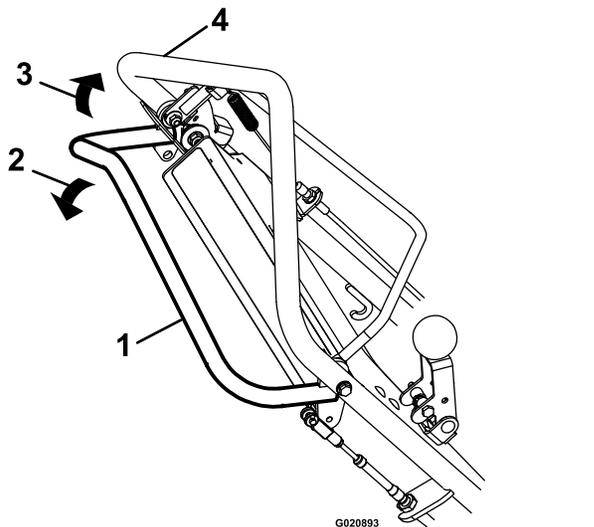

Figure 5
- To move forward, squeeze the self-propel drive bail against the handle (Figure 5).